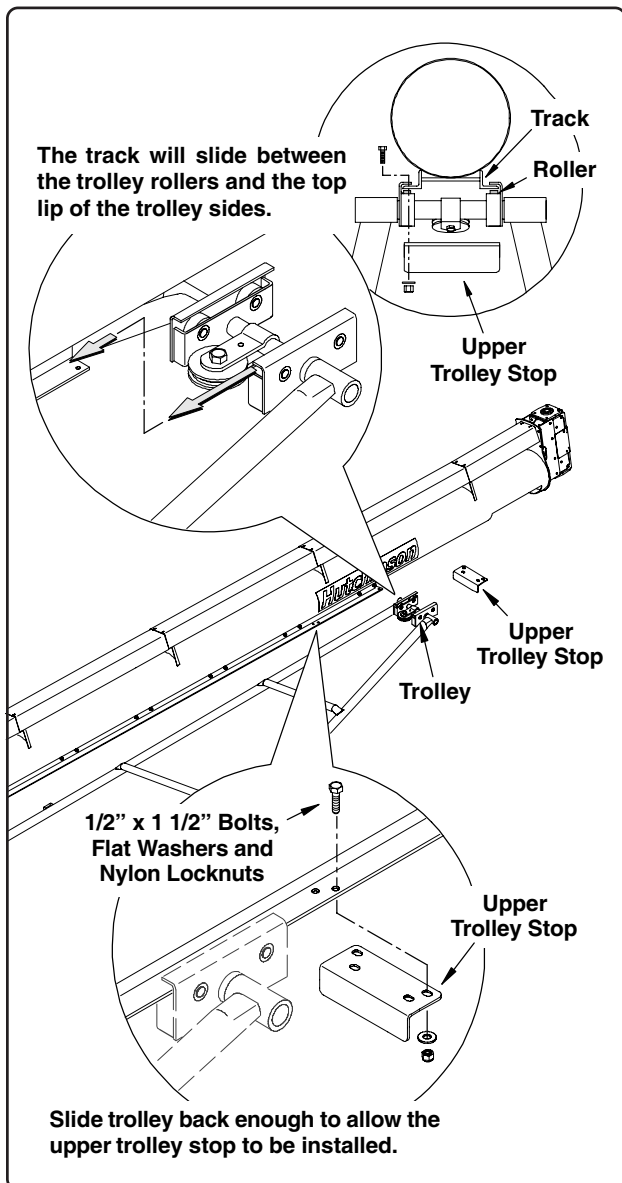

Fig. 35
1. Lift the main auger assembly and position the discharge end of the auger above the trolley located on the end of the undercarriage (See Fig. 35). Align the trolley with the tracks and carefully slide the trolley onto the tracks (the tracks should be positioned between the rollers and the top lip of the trolley as shown in Fig. 35 below). Slide the trolley back far enough to allow the upper trolley stop to be mounted to the tracks.
2. Secure the upper trolley stop to the tracks using four (4) 1/2" x 1 1/2" bolts, flat washers and nylon locknuts (See Fig. 35).